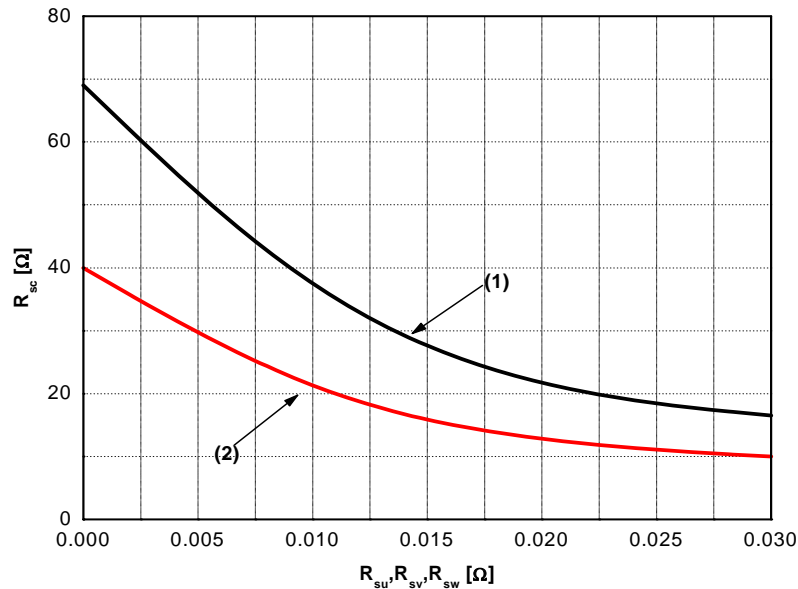

Figure 6. R_{SC} Variation by Change of Shunt Resistors (R_{SU} , R_{SV} , R_{SW}) for Short-Circuit Protection
- Short-circuit protection is functioning only at the low-sides. It would be recommended that the value of the external sensing resistor (R_{SC}) should be selected around 40 Ω in order to make the SC trip-level of about 75A, at the shunt resistors (R_{SU}, R_{SV}, R_{SW}) of 0 Ω. For the detailed information about the relationship between the external sensing resistor (R_{SC}) and the shunt resistors (R_{SU}, R_{SV}, R_{SW}), please see Figure 6.